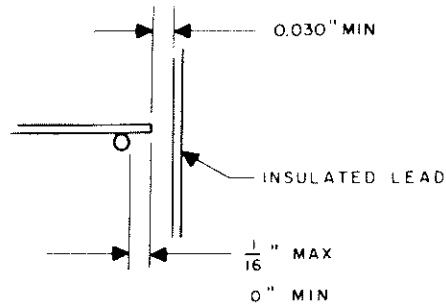

Figure 6-8. Clipped Wire Dimension and Clearance
- A. All bus wires and component leads shall be clipped no more than 1/16 inch from the conductors to which they are welded. See figure 6-8.